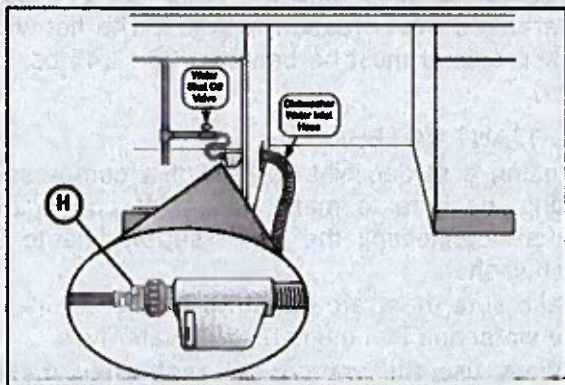

Figure 9
Install an easily accessible shut-off valve (not supplied) in the hot water supply line, as shown in Figure 9. All solder connections must be made before the water line is connected to the dishwasher.
1. Assemble the water supply adaptor fitting (H) from the parts bag onto the dishwasher water supply hose. This connection does not require Teflon brand tape
*NOTE: The end of the dishwasher water inlet hose is heavy and will need to be supported. It is best to lay the end on the cabinet floor as shown in Figure 9.*